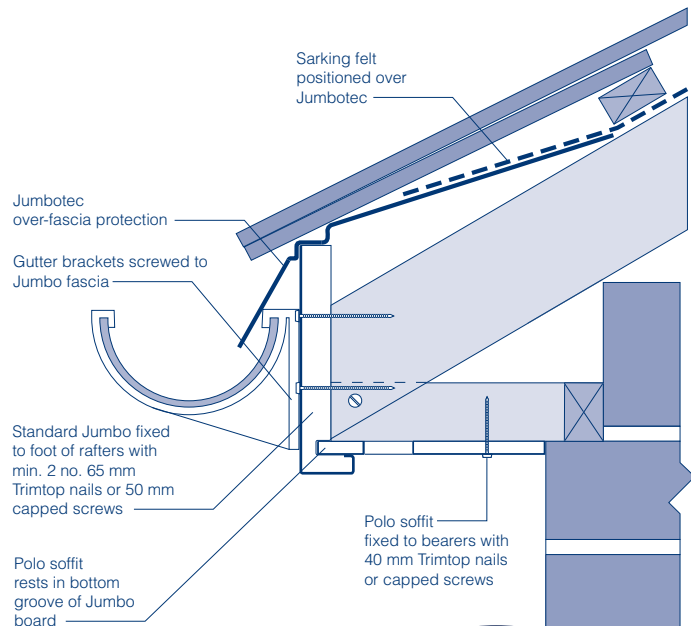

Fig. 6 Square Jumbo used with Polo ventilated soffit and Jumbotec over-fascia protection
- Where eaves protection is to be fitted the rear flange of the unit must dress under the existing felt edge. (Fig 6)
- While tilt fillets are illustrated (Fig 6), the necessity for these will depend on factors other than that of supporting the tiles or slates, such as angle of pitch and position of tile battens.